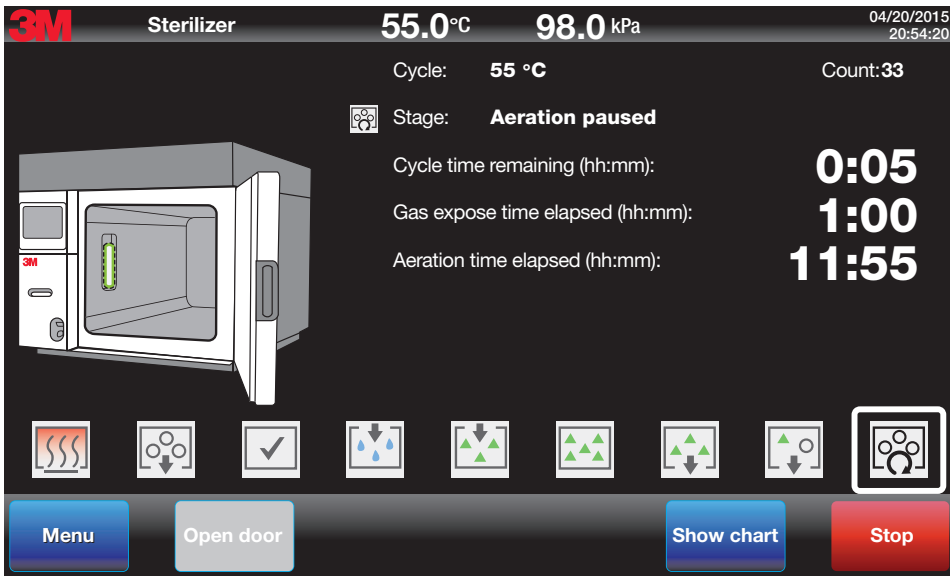

Figure 60.
4. Open the GS Series sterilizer door. The Aeration stage will be paused (Figure 60).